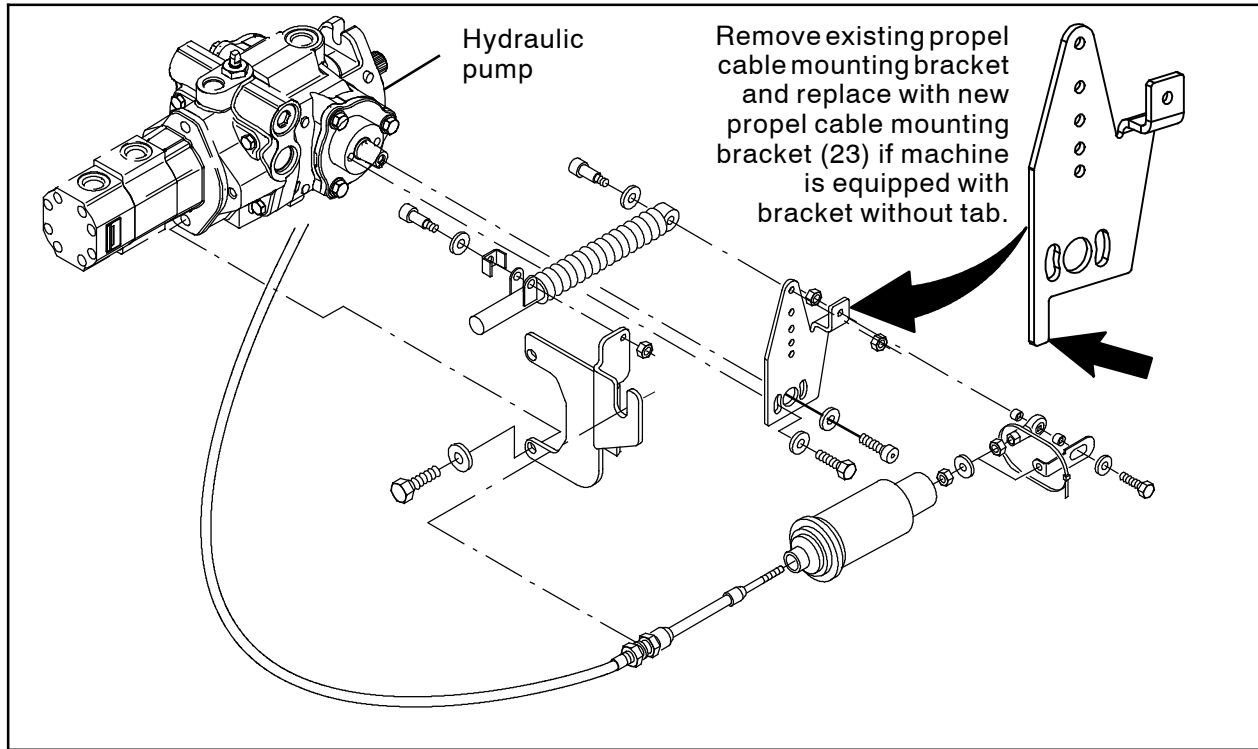

FIG. 2
4. Check the propel cable mounting bracket on the hydraulic pump. If propel cable mounting bracket has a tab located on bottom of bracket proceed to the *INSTALLATION* section. If the propel cable mounting bracket does not have tab located on the bottom of bracket, replace existing propel cable mounting bracket with new propel cable mounting bracket (23). (Fig. 2)
5. If the propel cable mounting bracket was replaced, adjust the new propel cable mounting bracket (23) so the machine does not move instantly upon start up, before the directional pedal is used to move the machine.